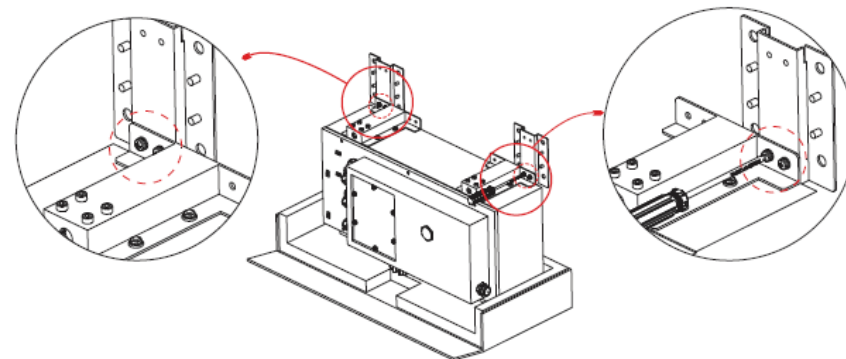

Figure 13 Assembling Battery Brackets
Step 3 Use a screwdriver to assemble the battery mounting bracket on the outside of the battery, as Figure 13 shows.